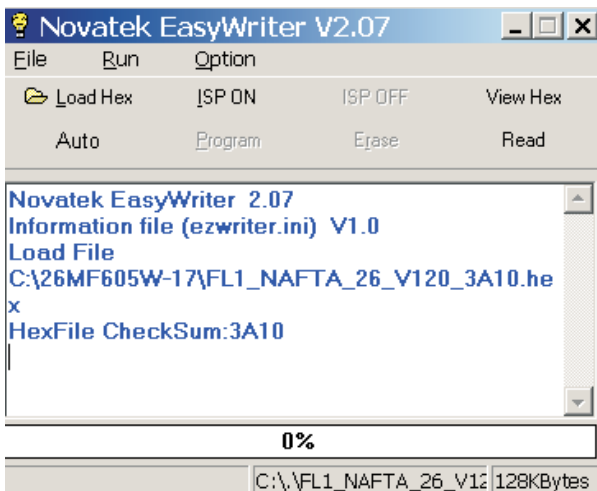

Fig. 8
- Press the AUTO to running program , the firmware be updated as shown in Fig. 8~9.